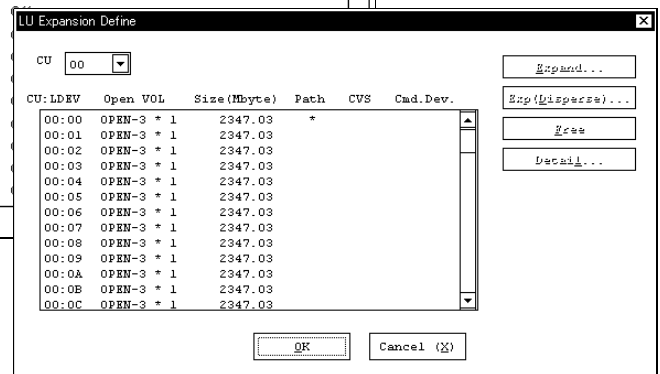

Figure 9.2
- ② Since the LU Expansion Define window (Figure 9.2) is displayed, set each item and select (CL) the [OK] button.